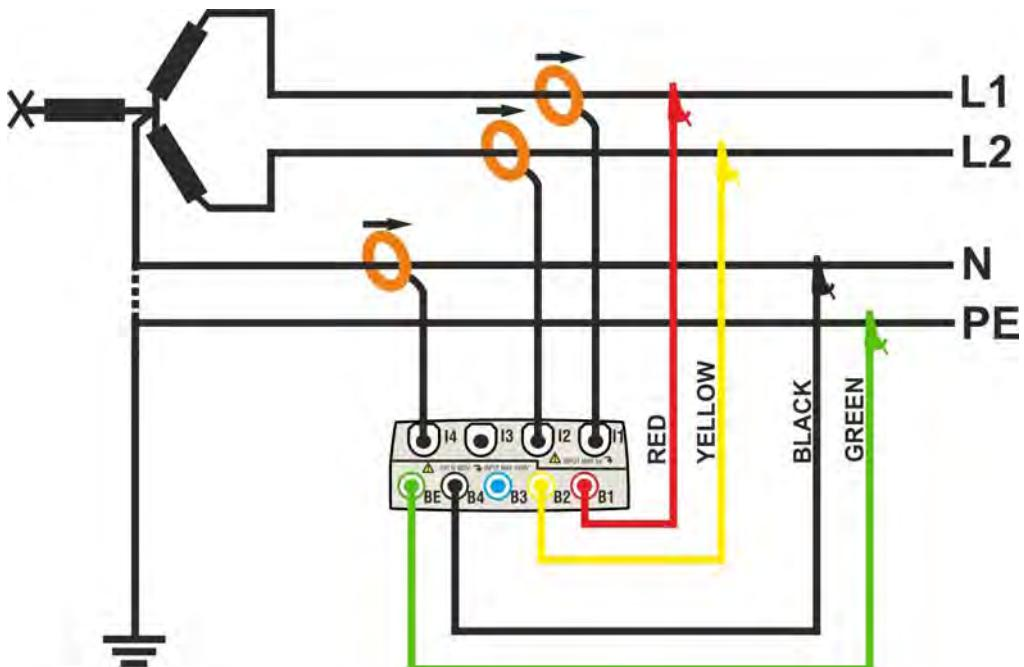

Fig. 145: Meter connection in a two phase 3-wire 3POY system – ENG\_UK type
2. Connect voltage test leads on Phases L1, L2, N and PE cables considering the colours as shown in Fig. 145
3. Connect the transducer current clamps on Phase L1, L2, N cables as shown in Fig. 145 respecting the clamp's arrow direction indicating the current standard sequence from generator to load. **On Real Time Values' section screens (selecting a 3 wire system preliminarily) always verify the positive value of Active Power and the power factor relative to load which should be normally inductive** before starting a recording. Reverse the clamp by 180 degrees on cables in case of negative readings.